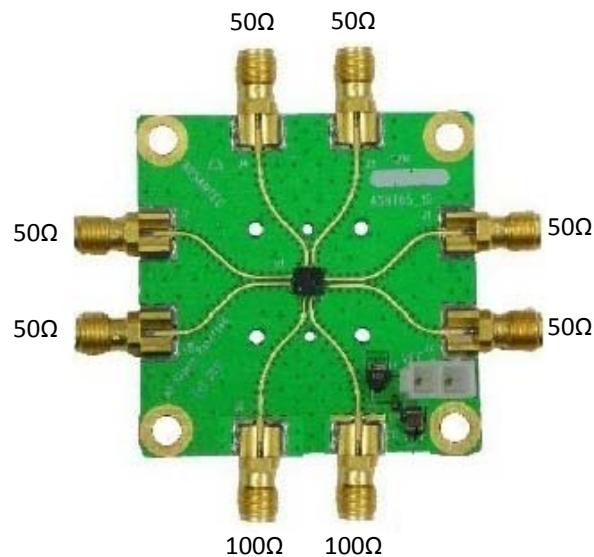

Fig. 2. Impedance of I/O Connectors
2. Measure the resistance of all connector pins to VCC, including the power supply, while making sure the board is grounded. All high speed I/O ports should measure 50Ohms while on the power supply connector, VEE should be high impedance and GND should be a short. icntp/icntn should measure 100Ohms and tnp/tnn should measure 50Ohms. Fig. 2 shows the resistance values of the described I/O connectors.